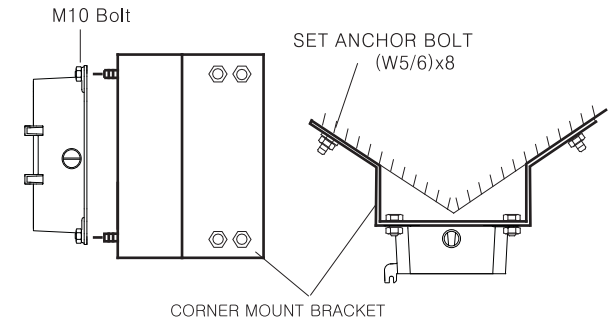

FIG.4
- b-4. Fix the wanted Junction Box on the corner mount bracket with 4 ea of M10 BOLT before you install the corner mount bracket.(FIG.4)
Screw the set anchor bolt of the bracket by nut on the wall.(FIG.4)